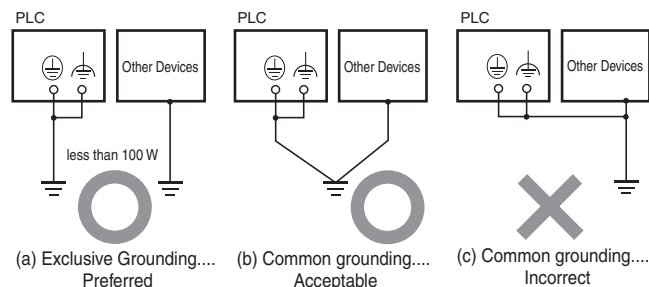

Figure 12. Grounding Methods
- ① Use Ground to 100 W or less, and use independent ground which is separated from the grounding of other devices (See Figure 12 (a))
- ② If using an independent ground is not possible, then use a common ground as shown in Figure 12 (b). Connect to the ground pole of the other device.
- ③ Never connect to the same ground as a device that draws a large amount of power, such as a motor or inverter. Ground the devices separately to avoid mutually adverse influences.
- ④ To prevent electrical shock, do not connect to ground poles (especially steel frames) to which multiple devices are connected.
- ⑤ As much as possible keep the grounding pole close to the PLC, and keep the grounding line short.